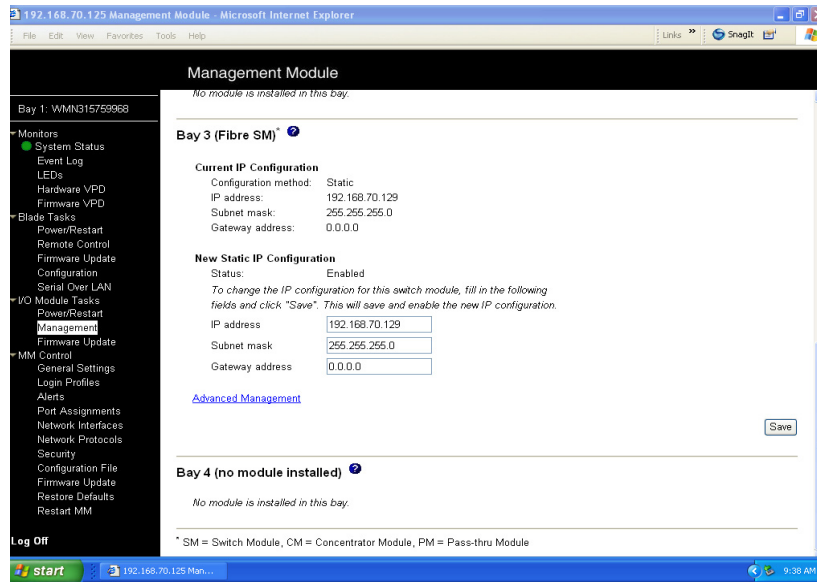

Figure 26. Switch Management window showing switch module 3 example
- Click the link for either switch module 3 or switch module 4. A window similar to the one in Figure 26 opens.